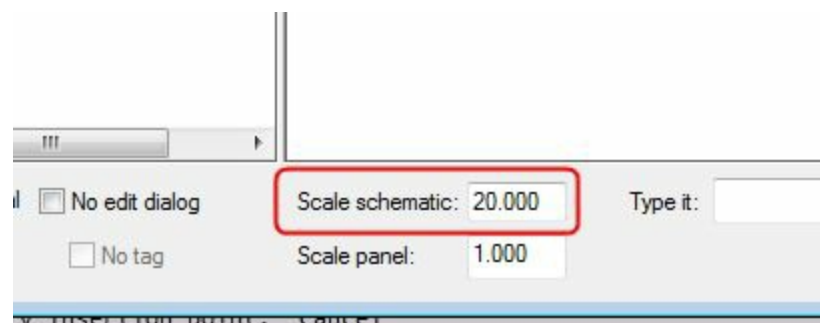

Figure-14. Scale schematic edit box
- Click in the **Scale schematic** edit box at the bottom of the dialog box and specify the value as **20**; refer to Figure-14.